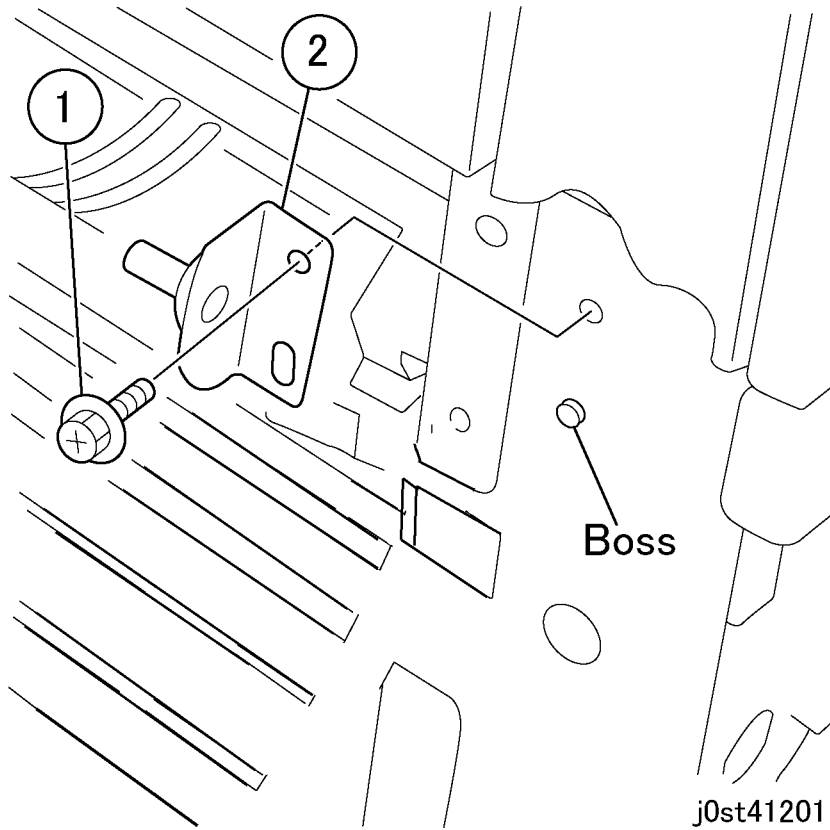

Figure 3 Removing the bracket
5. Remove the bracket. (Figure 3)